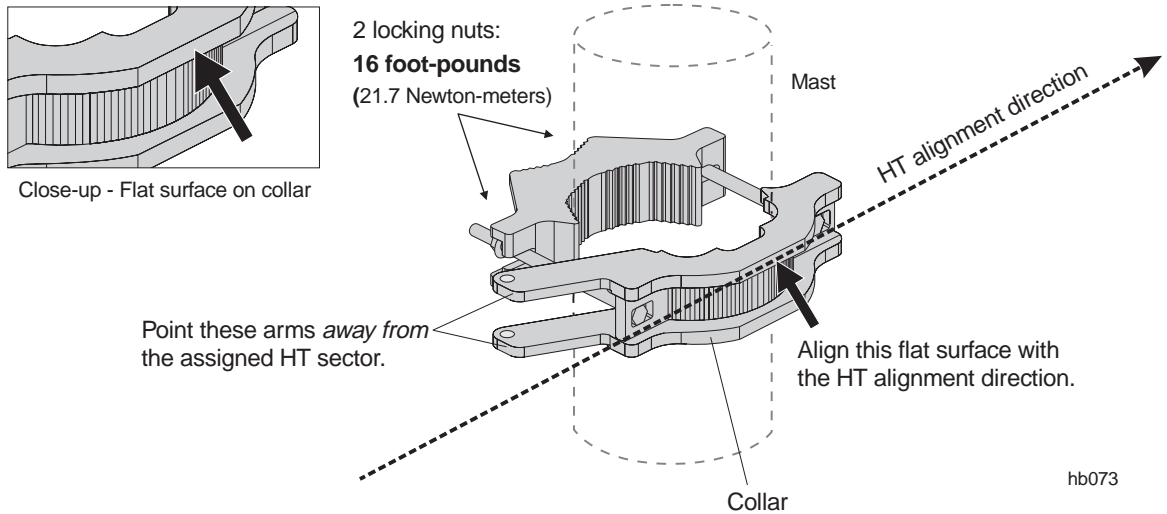

Figure 4-9 Aligning the temporary installation collar
3. Align the collar with respect to the direction specified for HT alignment by the Network Planning Group (and recorded in the Site Data Record). See figure 4-9.